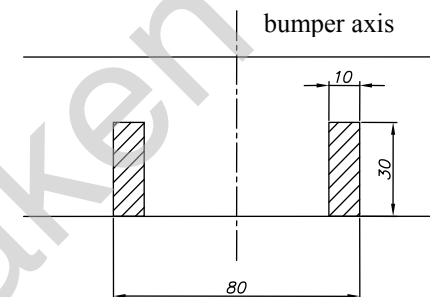

Fig. 2 Cut area
4. In the place previously metal strengthener, put the elements (pos. 5 and 6) and twist with bolts  $M8 \times 35$ mm (pos. 15) from the front, and form under of this, with bolts  $M10 \times 35$ mm (pos. 14) - loosely.
5. For this way prepared elements, put the main bar of the towbar (pos. 1) and twist with bolts  $M12 \times 35$ mm (pos. 13).
6. To elements (pos. 5 and 6) through the holes (pos. A) fix the brackets (pos. 7 and 8) with bolts  $M12 \times 35$ mm (pos. 13) and previously put bolts  $M10 \times 110$ mm (pos. 12) and twist with chassis member.
8. Mount the bumper after previous cut a fragment, how is showed on fig. 2.
9. Fix body of the automat and place tow-ball according to supplied instruction. Note! Remember to place socket plate (pos. 3) as shown on the drawing 1.